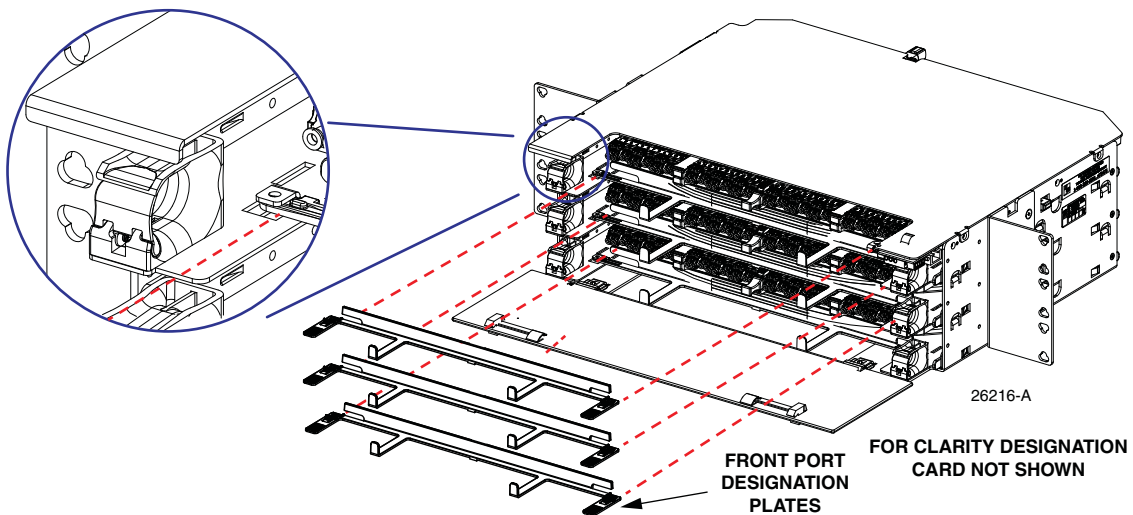

Figure 54. Installing Front Designation Plates (3RU Panel Shown)
5. Locate and install the front port designation plates as shown in Figure 54. Slide in the designation plates until they reach the detents and snap into place.